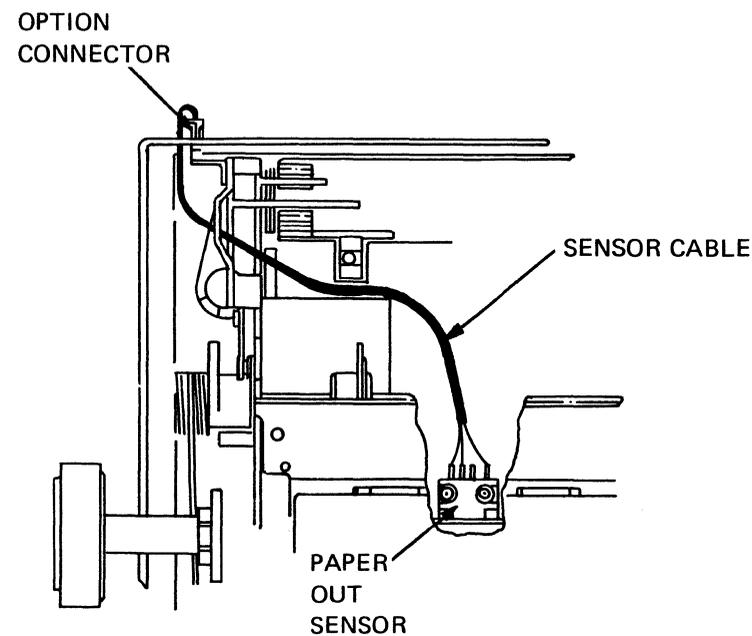

Figure 4-15 Paper Out Sensor Connection for the Bottom Feed Guide (Top View)
- f. Run the sensor cable through the printer, through the hole in the base assembly of the Spinwriter, and plug it into the connector at the rear of the printer (see Figure 4-15).